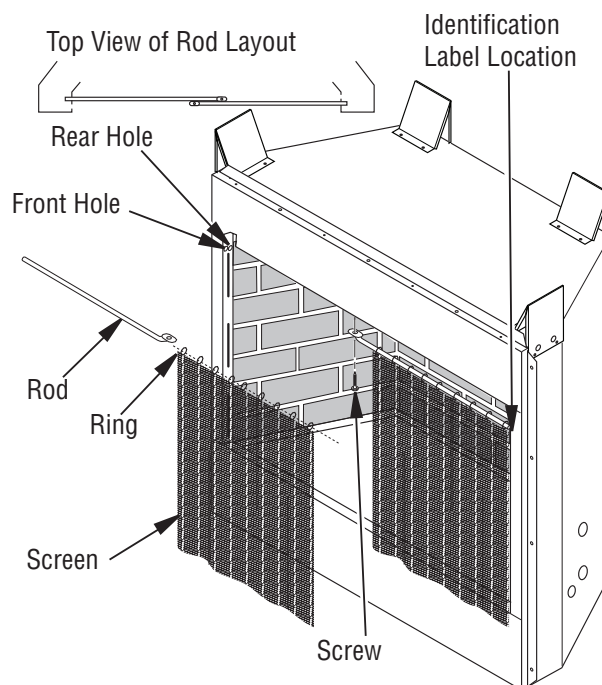

Figure 6 - Installing Fireplace Screen
2. Insert first rod into rear hole in left side of fireplace. Fasten rod to rear hole near center of fireplace using #10 x 3/8" Phillips screw provided (see **Figure 6**).